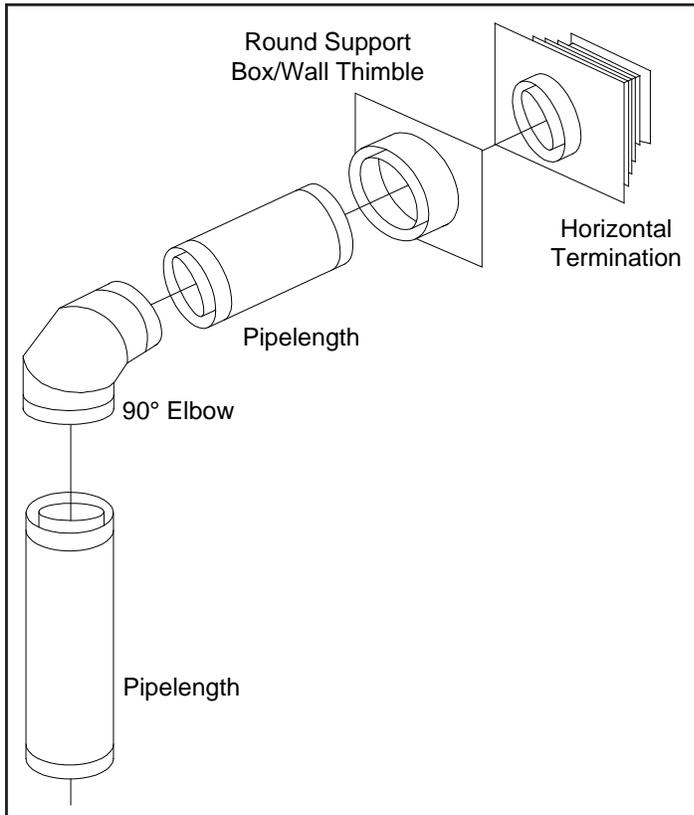
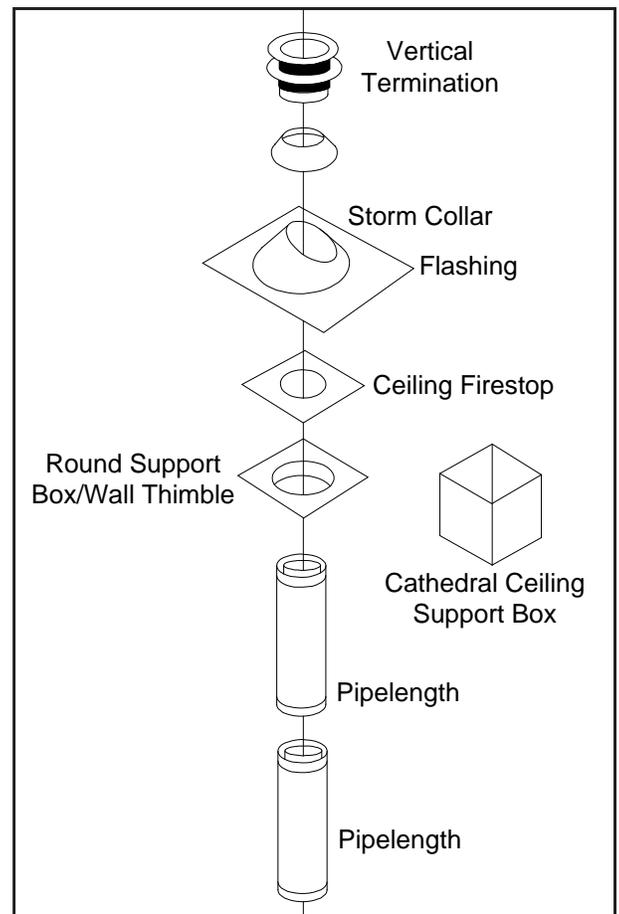

Figure 24: Common Horizontal Installation.
Figure 25: Common Vertical Installation.
There are three (3) permitted types of Direct Vent System installations: horizontal (figure 23), vertical (figure 24) or snorkel (figure 25).